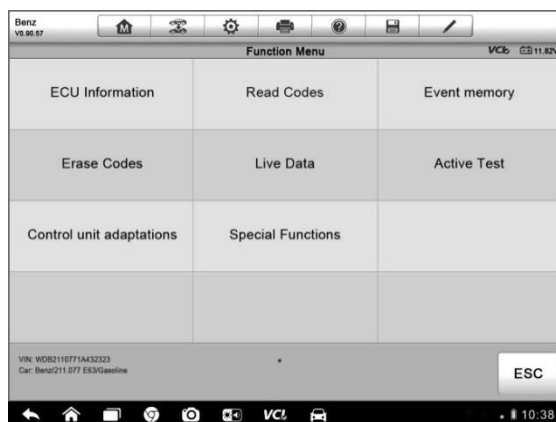

Figure 4-7 Sample Function Menu Screen
- Tap the  button to the right of the system item, on which you want to perform further diagnosis and other test activities. A Function Menu screen (*Figure 4-7*) shall then display.